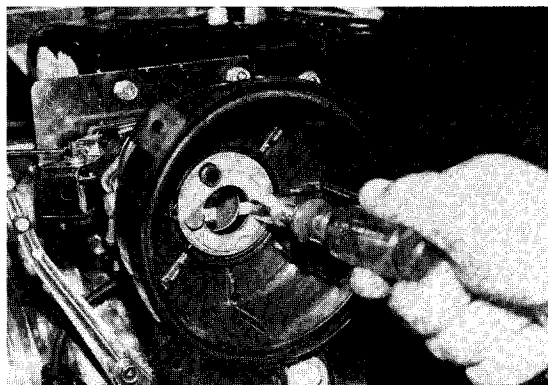

Figure 7-8
6. Bend tabs down and remove two bolts mounting air filter housing to carburetor. Remove air filter housing (Figure 7-8).